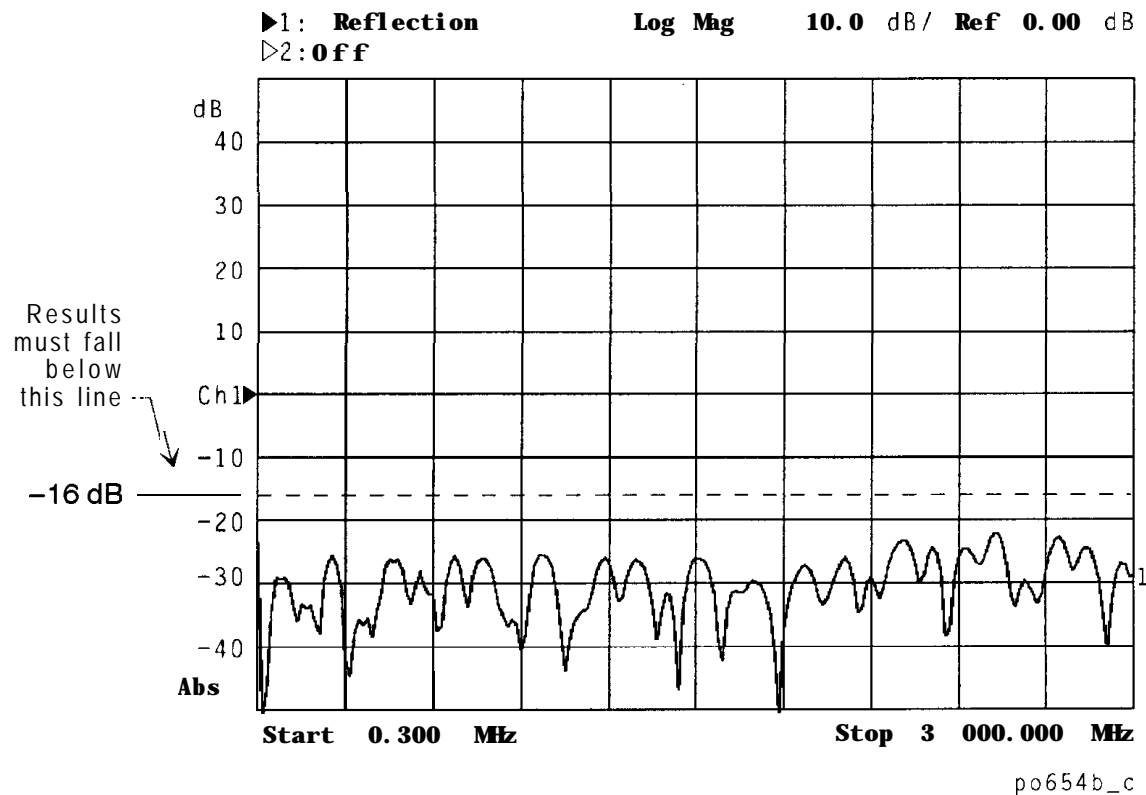

Figure 2-8. Verify Reflection Measurement
3. Verify that the data trace falls completely below -16 dB. See Figure 2-8 for a typical result.